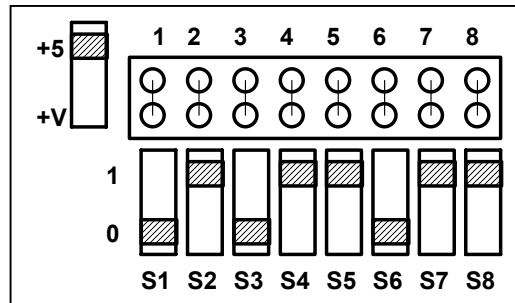

Figure 5.5 Logic Switches on Proto-Board
There are eight digital logic switches (SW1 to SW8) built on the bottom left of your Proto-Board as shown in Figure 5.5 and each one is able to apply logic levels of 0 and 1 to the connected digital circuits. Another switch is assigned to change the voltage levels of the logic signals from +5(V) to +V(V) depending on what power supply source is connected to your circuit. During the experiments, it is necessary to turn the switch to the “+5 V” position.